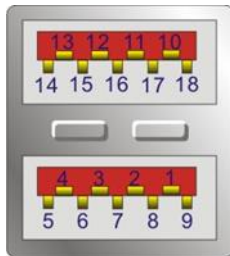

Figure 4-28: External USB 3.2 Gen 2 Connectors Location
- CN Location:** See **Figure 4-28**